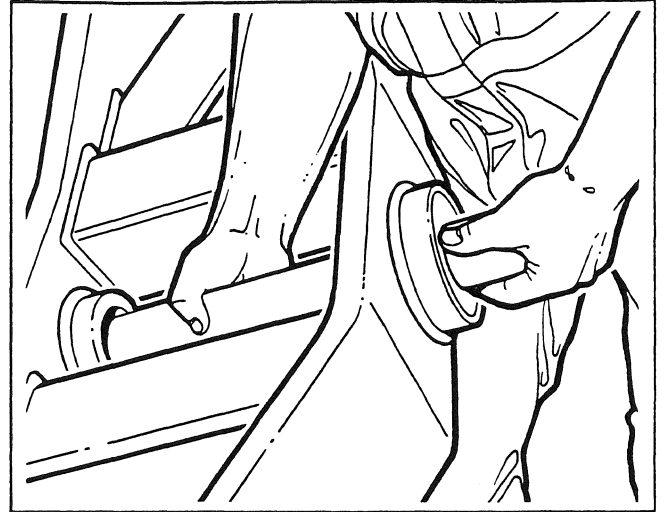

Fig. 3
14. Remove the bolts (12) and lockwashers (13) retaining the front and rear thrust caps (1 and 11). Remove the thrust caps, thrust washers (2 and 10) and any shims (3 and 9) from the axle frame bosses.
15. Remove the pivot pin (6) out of the bearings (see Fig. 3).